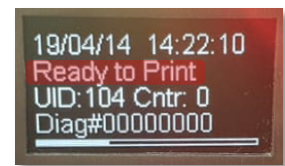

Figure 14. OLED display in Hx Nitro showing "Ready to Print"
- Press the "Print On" button and a "Ready to Print" message as shown in Figure 14 should appear on the device's display. "